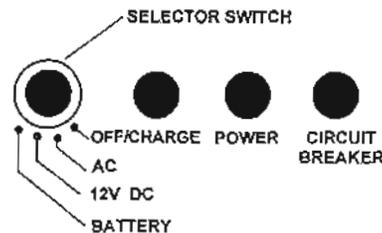

Figure 3-4. Operating mode selector switch.
a. Operating mode selector switch (fig 3-4).